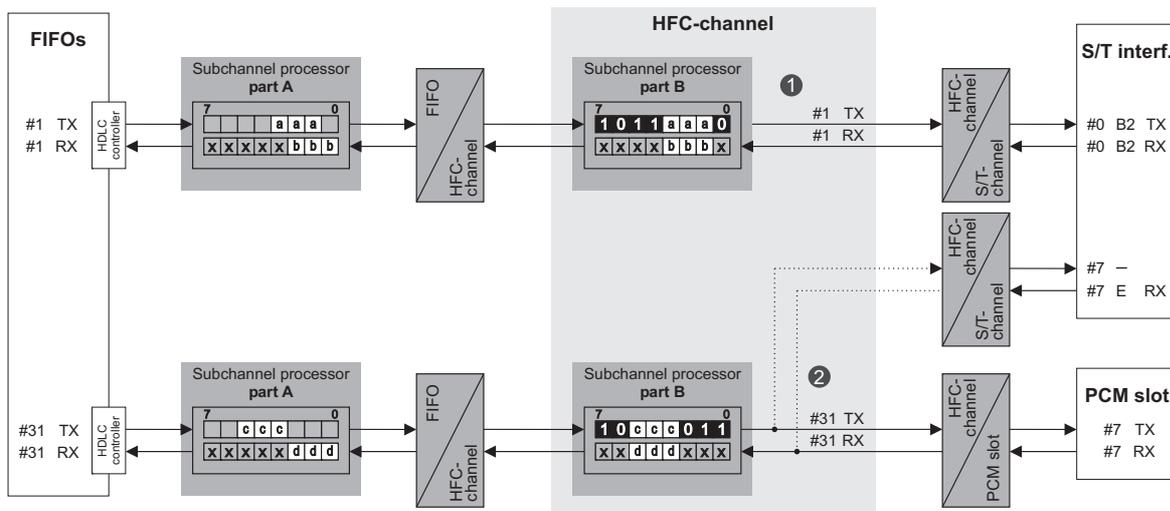

Figure 3.17: SM example with subchannel processor
The subchannel processing example in Figure 3.17 shows two bidirectional configurations (❶ FIFO-to-S/T and ❷ FIFO-to-PCM) in *Simple Mode*.
Table 3.6: Subchannel processing according to Figure 3.17 (SM 1 TX, transparent mode)
Table 3.7: Subchannel processing according to Figure 3.17 (SM 1 RX, transparent mode)
Table 3.8: Subchannel processing according to Figure 3.17 (SM 2 TX, HDLC mode)